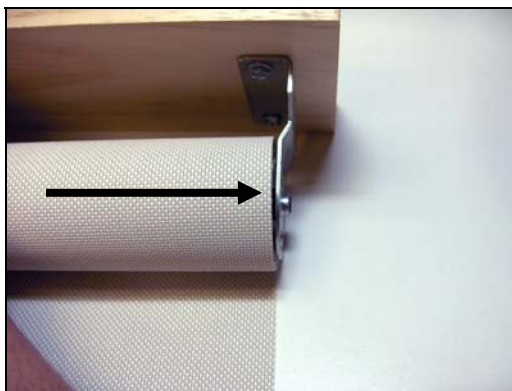

Figure 3 Idler pin collapsed
- Gently push the shade toward the idler bracket until the idler pin on the shade collapses. See Figure 3.